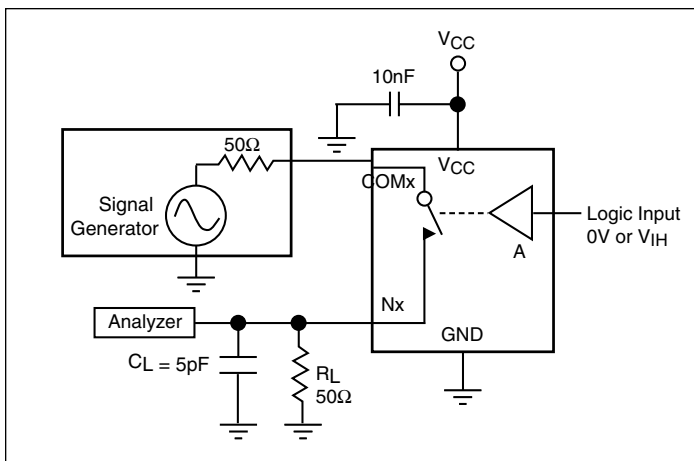

Figure 5. Off Isolation
- Off Isolation = $20\log_{10} [(V_{NO} \text{ or } V_{NC}) / V_{COM}]$. See Figure 5.
4. Off Isolation = $20\log_{10} [(V_{NO} \text{ or } V_{NC}) / V_{COM}]$. See Figure 5.